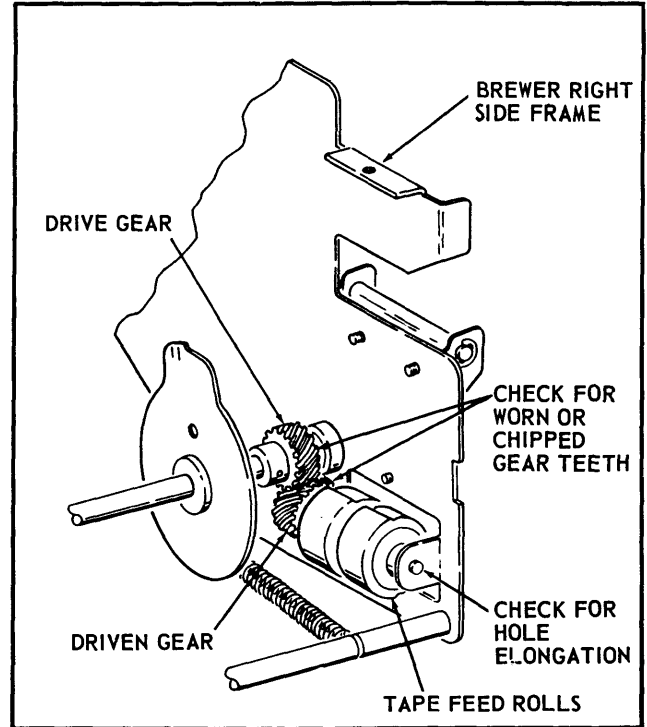

Figure 1.
2. Inspect the Brewer Mechanism Cam Shaft Assembly Drive Gear and Paper Feed Roll Gear And Shaft Assembly Driven Gear for chipped or worn teeth. If the teeth on either or both of these Gears is worn or chipped install a Brewer Mechanism Filter Paper Advance Gear Replacement Kit, part number 610-4466, at the same time the Feed Rollers in this Kit are being installed. See Figure 1.
3. If the Brewer is an early model Brewer Assembly which does not have bearings for the Paper Feed Roll Gear And Shaft Assembly, inspect the holes in the Shaft Assembly mounting ears on the Brewer Right Side Frame for wear. If the holes are elongated, do not install the parts of this Kit, order and install the parts of Brewer Mechanism Assembly Right Side Frame Assembly And Gear Replacement Kit, part number 610-4470. See Figure 1.